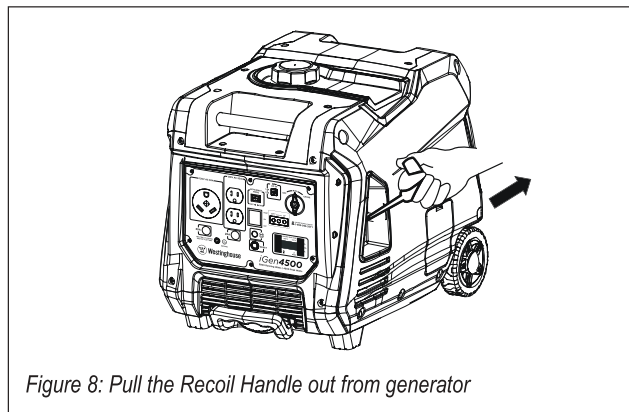

Figure 8: Pull the Recoil Handle out from generator
6. Firmly grasp and pull the recoil handle slowly until you feel increased resistance. At this point, apply a rapid pull while pulling out from the generator (see Figure 8).